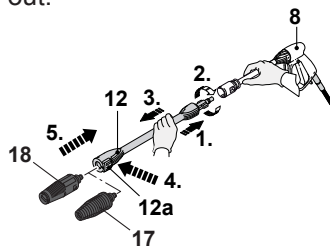

Fig. 9
1. Always attach the extension lance (12) when using the rotary nozzle (17) (Fig. 9).
1. Always use the vario nozzle (18) with the extension lance (12) attached (Fig. 9).